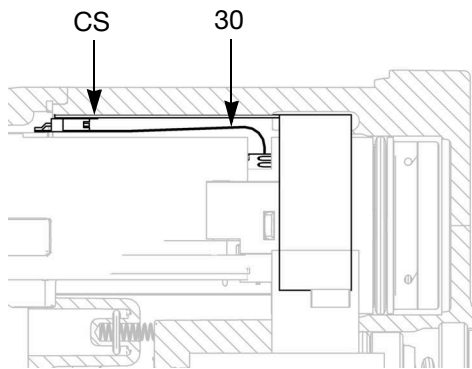

FIG. 28. Connect Flexible Circuit
8. Insert the power supply/turbine assembly in the gun body (10). Make sure the ground strips (EE) make contact with the gun body.
Smart models only: Align the connector of the 6-pin flexible circuit (30) with the socket (CS) at the top of the gun body. See FIGURE 28.